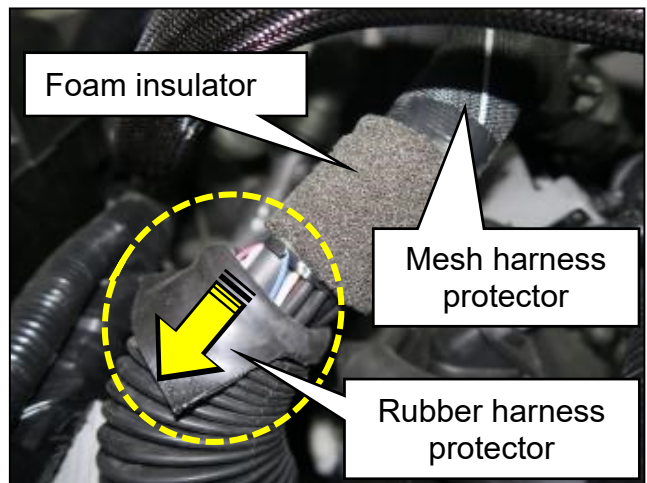

Figure 11
11. Carefully roll the end of the rubber harness protector, and then pull it in the direction shown in Figure 11 to expose the foam insulator and the tape securing the mesh harness protector.